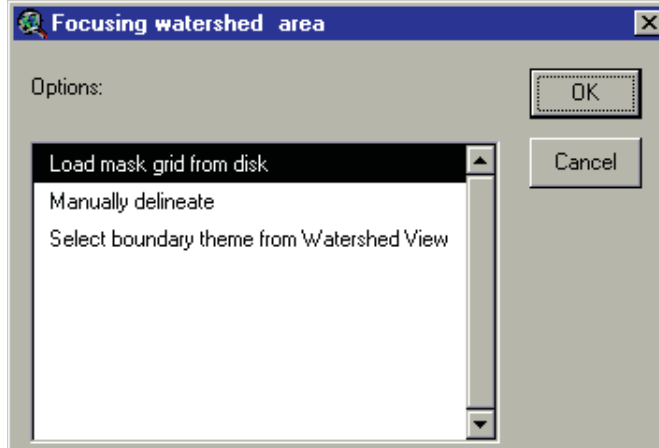

Figure 15.16
- a. On the Watershed Delineation dialog box, check the box next to **Focusing watershed area option**. A check will appear in the box Focusing watershed area option and a prompt box will open (Figure 15.16).